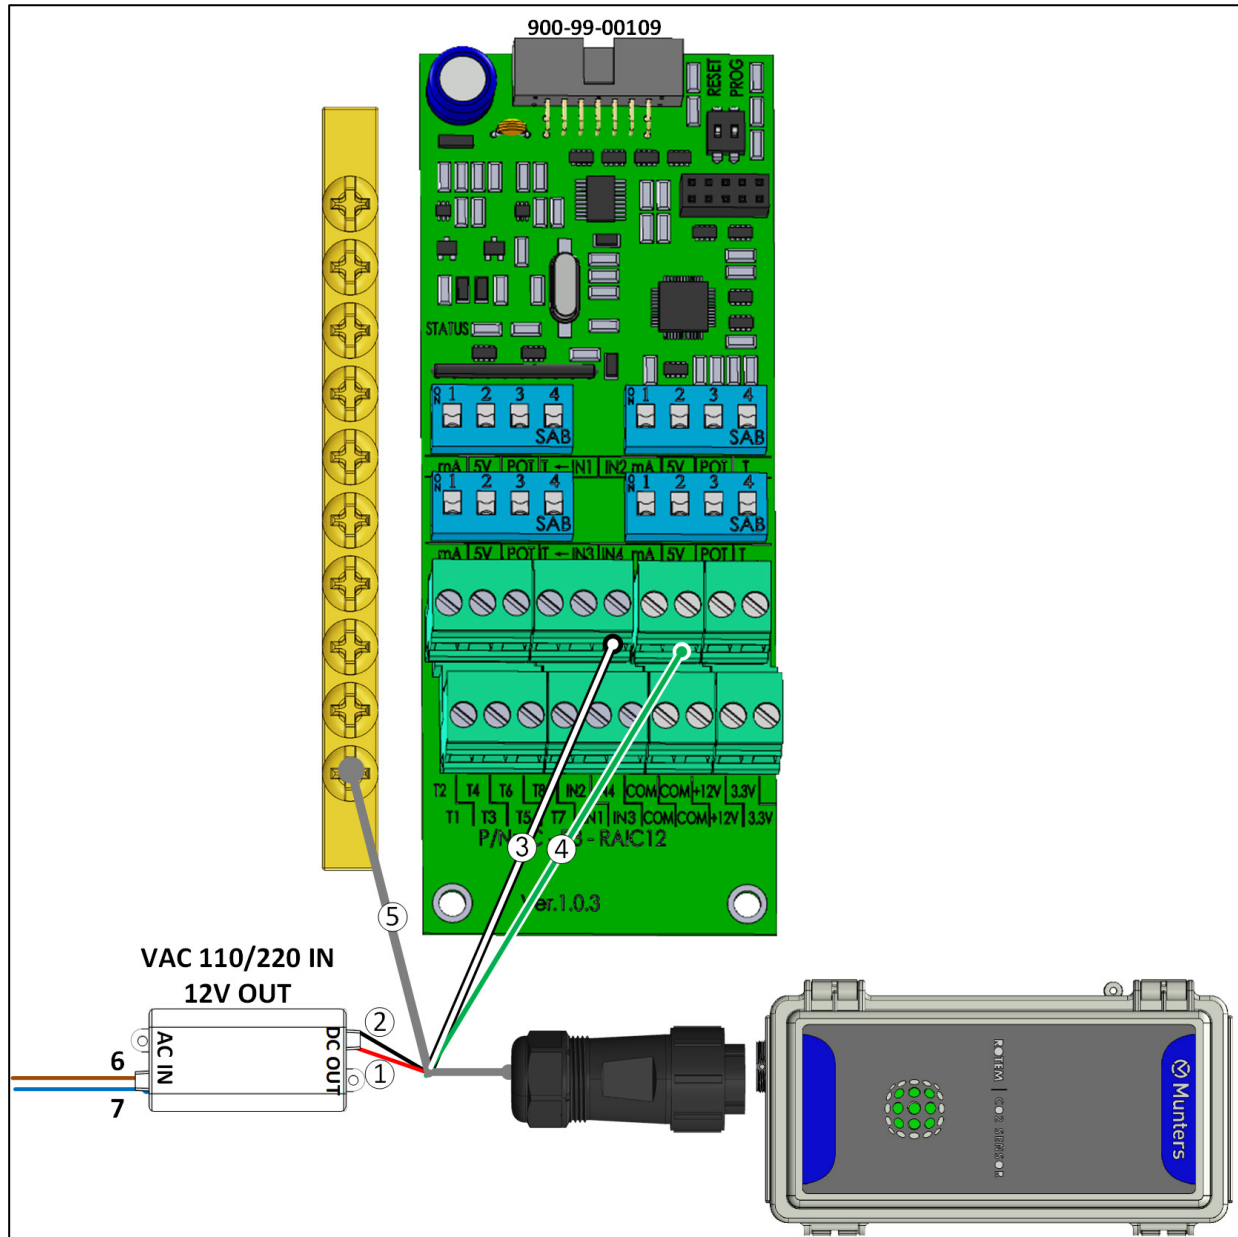

Figure 13: Platinum Pro Power Supply Wiring
1. Attach the other end of the sensor cable to the power supply and Platinum Pro Analog Input Card as indicated in Figure 13.